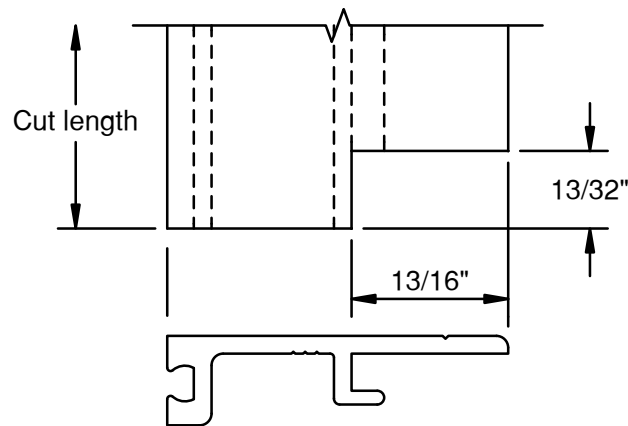

FIGURE 19
- A.1 Notch vertical adaptors at captured mullions according to FIGURE 19. Horizontal adaptors are straight cut. Install vertical adaptors first, leaving an equal overlap into each pocket. Refer to VERTICAL SPLICING, page 13 & 14 if vertical mullion is spliced within a spandrel lite. Transition adaptors must be installed after mullion splice is sealed.